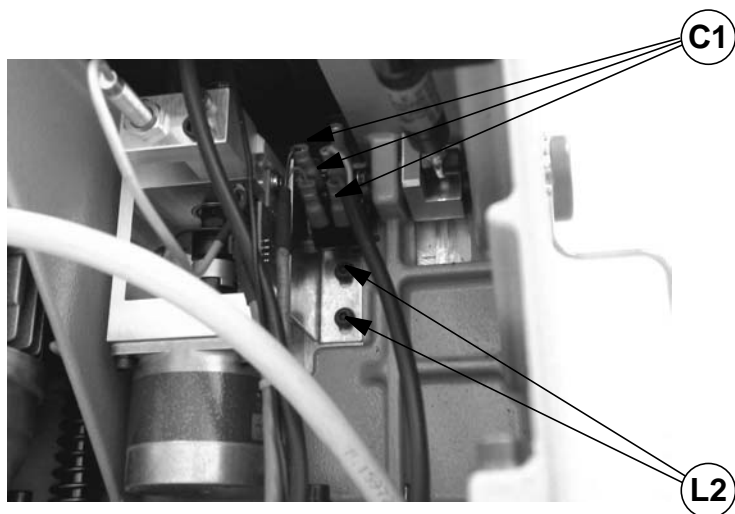

Fig. 51
- 2) check the connecting wires on the two microswitches (C1 - fig. 51).
- 2) loosen the two screws (L2) and remove the microswitch plate (fig. 51, page 82).
- 3) disconnect the connecting wires to the two microswitches (C1) (fig. 51, page 82).